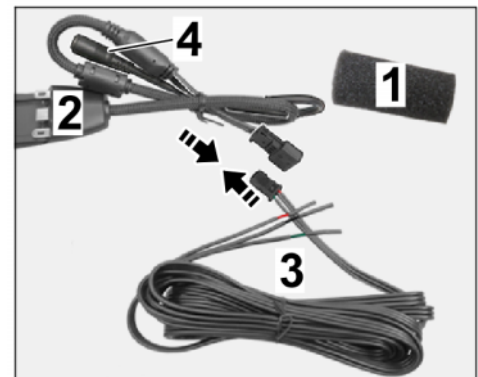

Figure 12
3.1.2 Connect plug connection (3-pin) (⇒ Figure 12 -Arrows-).